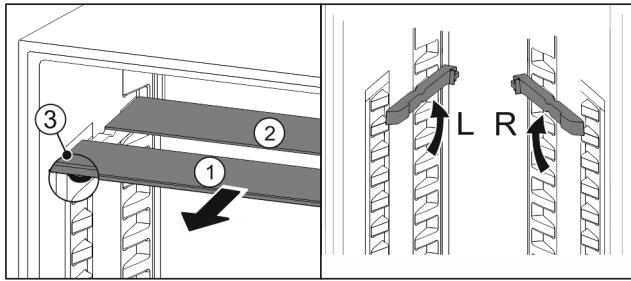

Fig. 96
- ▶ Pull the glass panels out *Fig. 96 (1)* from the front, one at a time.
- ▶ The glass panel *Fig. 96 (1)* with the trim strip is at the front.
- ▶ The stops *Fig. 96 (3)* point downward.